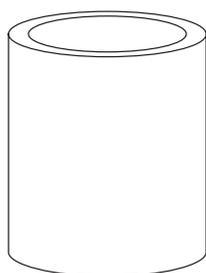

Figure 6. Qualcrimp Crimping Accessory
• Qualcrimp Crimping Accessory (Figure 6)